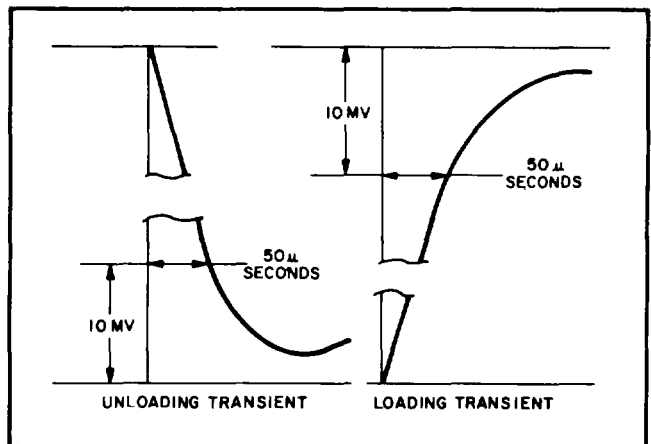

Figure 5-9. Transient Recovery Time, Waveforms
- e. Adjust 25K potentiometer until a stable display is obtained on oscilloscope. Waveform should be within the tolerances shown on Figure 5-9 (output should return to within 10mV of original value in less than 50 microseconds).